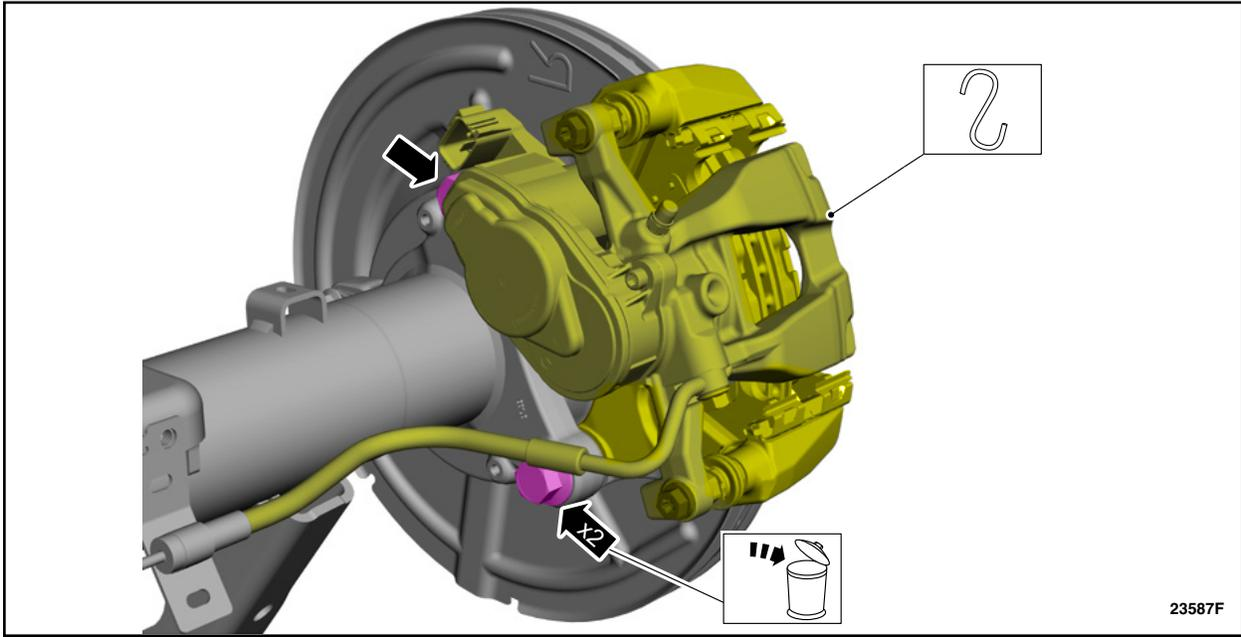

FIGURE 2
5. On both sides, remove and discard the two (2) anchor plate bolts and position aside the brake caliper and anchor plate assembly. See Figure 2.
9. On both sides, position back the brake caliper and anchor plate assembly and install the new bolts. See Figure 2.